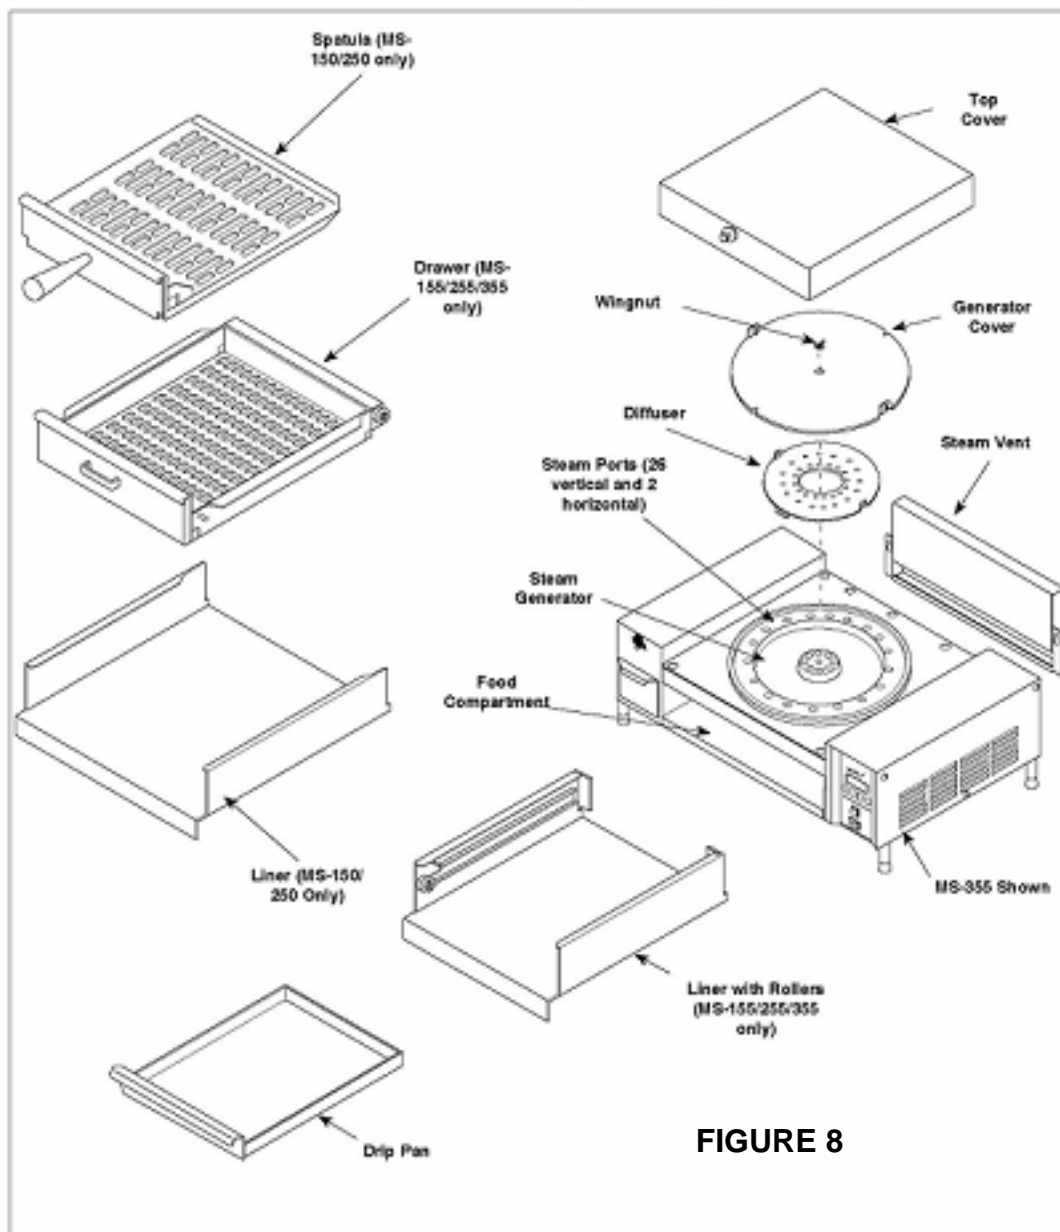

FIGURE 8
3. Remove the Spatula (MS-150/250 only), Drawer (MS-155/255/355 only), Liner, Drip Pan, Top Cover, and Steam Vent (Figure 8).
5. Wipe down the food compartment and the entire exterior of the unit (Figure 8) with a clean, hot, damp cloth (not dripping wet) and wipe dry.
3. Remove the wing nut, Generator Cover, and Diffuser (Figure 8). Wash these items in hot, soapy water, rinse and **WIPE DRY**.
4. With the unit cool, use a wire brush and/or scraper to loosen and remove the excessive calcium/mineral deposits from the generator surface (Figure 8). Next, take a wire brush and clean out any build up that has accumulated in the 28 steam ports (26 vertical and 2 horizontal) of the generator (Figure 8). Remove the loose build up, wipe the generator with a clean, damp cloth, and reassemble the unit.